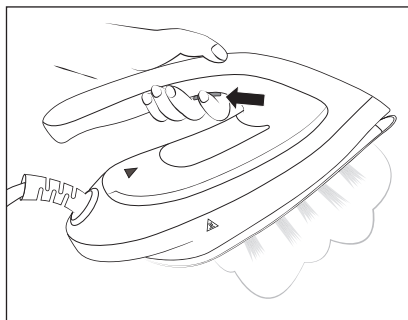

Fig. 5
- 1) Allow the steam iron ① to heat up until the **MAX** button ⑫ or **ECO** button ⑬ lights up continuously.
- 2) Take the steam iron ① off its base ⑰, and press the steam button ② (see Fig. 5) while ironing. Steam escapes from the steam outlet openings in the soleplate ④.